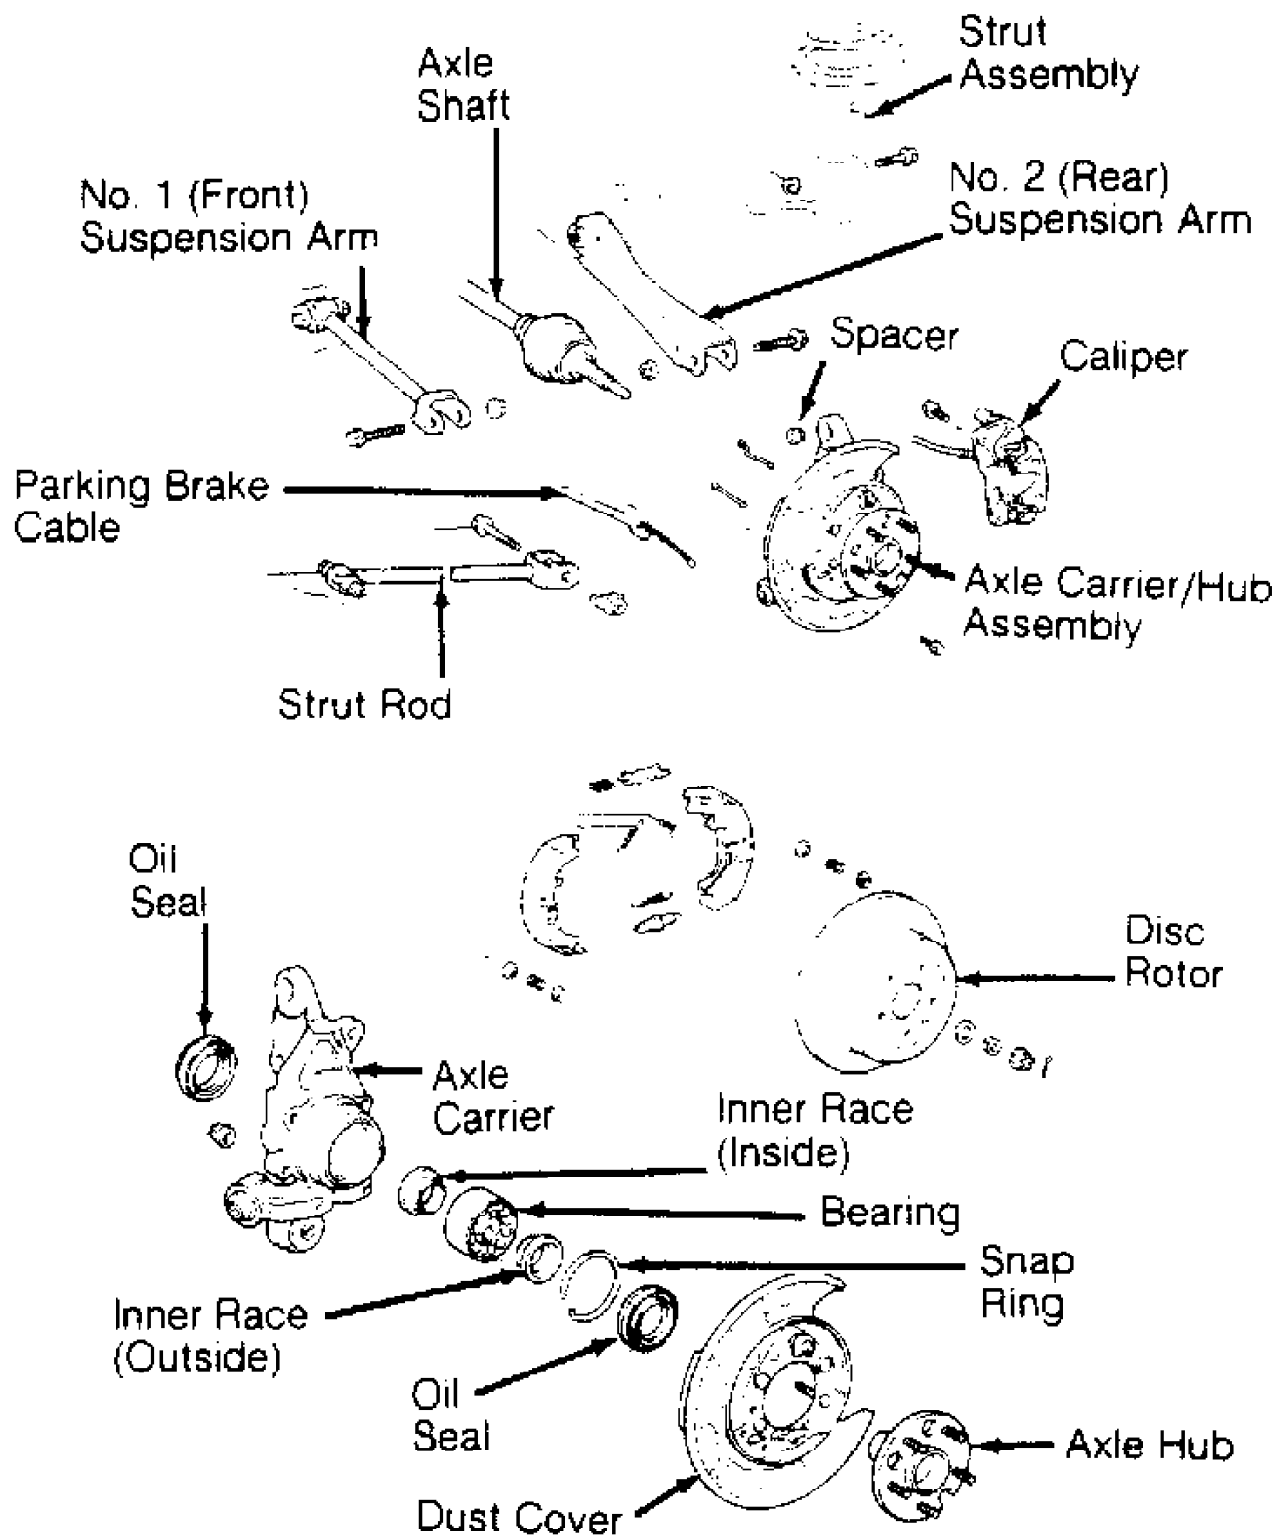

Fig. 2: Exploded View Of Rear Axle Components (All-Trac)
2) Using Puller (09950-20017), press axle hub from axle carrier. Using puller, remove outer bearing inner race from axle hub. Remove dust cover. See Fig. 2.